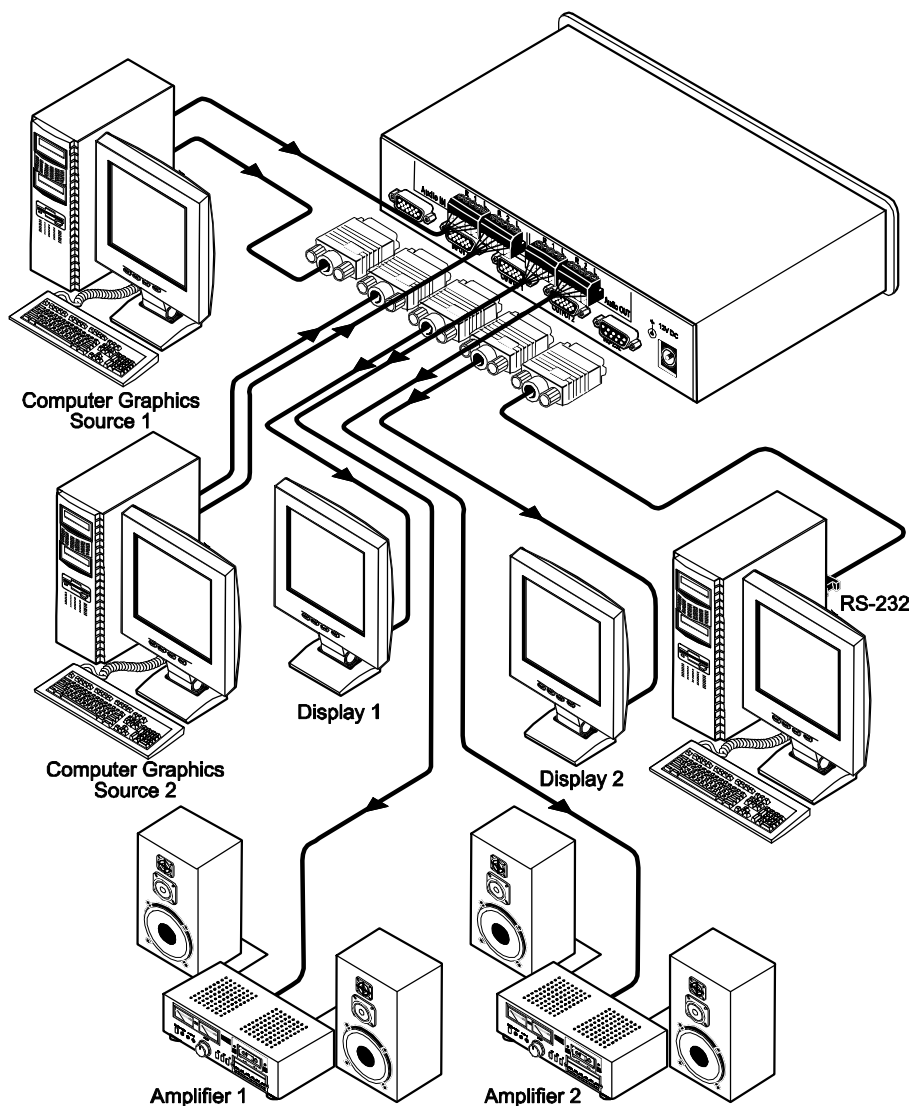

Figure 2: Connecting the VP-2x2 2x2 XGA/Audio Matrix Switcher
To connect¹ the **VP-2x2**, as illustrated in the example in Figure 2, do the following²:
6. Connect the 12V DC power adapter to the power socket and connect the adapter to the mains electricity (not shown in Figure 2).